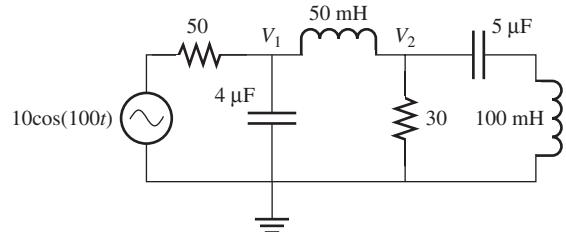

FIGURE P6.41 Circuit for Problem 6.41.
6.41 (A) Find the steady-state expressions for V_1 and V_2 in Figure P6.41.
- 6.74** (H) In Figure P6.41, use PSPice to plot V_1 and V_2 .